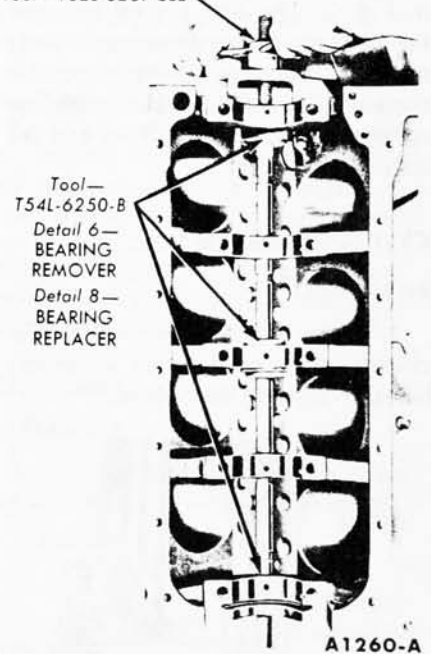

FIG. 22—Camshaft Bearing Removal or Installation
Drill a 1/2-inch hole in the camshaft rear bearing bore plug and use tool T-7600-E to remove the plug. Remove the camshaft bearings (Fig. 22).
1. Position the new bearing at the bearing bore, and press it into place with the tool shown in Fig. 22. Align the oil holes in the bearing with the oil holes in the cylinder block when the bearings are installed. **Be sure the camshaft front bearing is installed 0.005-0.020 inch below the front face of the cylinder block (Fig. 32).**